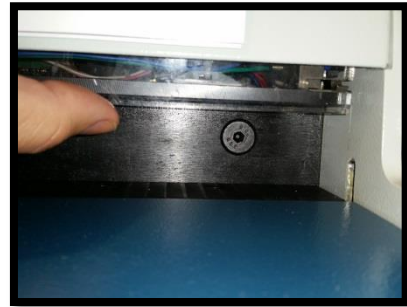

Figure 12
- d. **Closing Bar Safety System:** There is a built in safety system located just under the closing bar which prevents the bar coming all the way down if the book is either too thick for the setting of the wire size or if some ones finger or hand was on top of the book. Figure 12